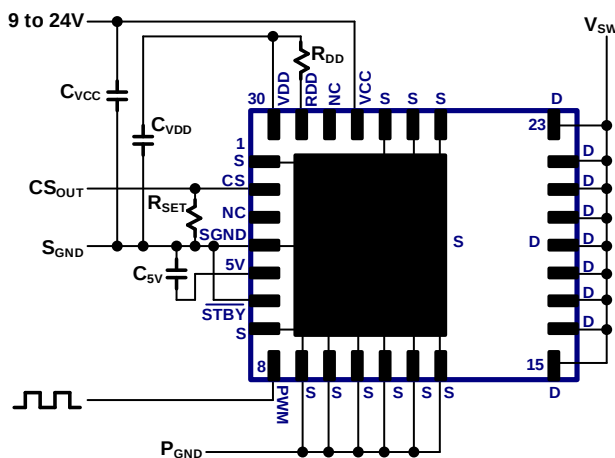

Fig. 20. IC connection diagram
The typical connection diagram for this GaN Power IC is shown in Fig. 20. The IC pins include drain of the GaN power FET (D), source of the GaN power FET (S), IC supply (V_{CC}), gate drive supply (V_{DD}), gate drive turn-on control SET input (R_{DD}), PWM input (PWM), separate signal GND (S_{GND}), current sensing output (CS), auto-standby mode input ($\overline{STBY}$), and 5V supply (5V). The Source pad and Source pins (S) should all be connected to the system P_{GND} . S_{GND} pin 4 must be connected directly to Source PAD underneath IC. The Source pins (S) should each be connected externally to the Source pad directly underneath the IC. The Drain Pins (D) should all be shorted together by copper in the layout (see Section 9). The external components around the IC include V_{CC} filter capacitor (C_{VCC}) connected between V_{CC} pin and S_{GND} pin, V_{DD} filter capacitor (C_{VDD}) connected between V_{DD} pin and S_{GND} pin, turn-on dV/dt set resistor (R_{DD}) connected in between V_{DD} pin and R_{DD} pin, a current sense amplitude set resistor (R_{SET}) connected between CS pin and S_{GND} , and auto-standby mode pin ($\overline{STBY}$) connected to S_{GND} . An external capacitor (C_{5V} , 0.01uF max) is required between pin 5V and S_{GND} . This 5V pin is for internal purposes only and must not be used for biasing external circuitry.